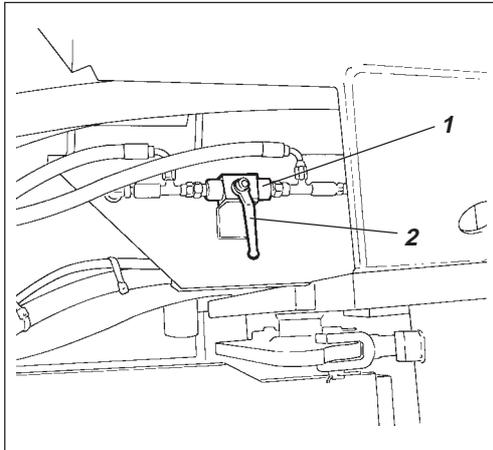

Fig. 30 Towing valve
Turn the arm (2) on the bypass valve 90° to disengage the hydrostatic brake, see fig. 30.